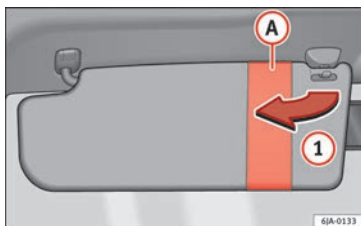
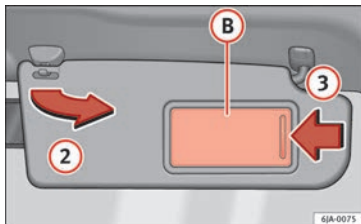

Fig. 54 Driver's sun visor.
Fig. 55 Front passenger's sun visor.
The sun visors for the driver and the front passenger can be pulled out of their central supports and turned towards the doors in the direction of arrow ① » Fig. 54 and ② » Fig. 55 respectively.
The front passenger sun visor includes a vanity mirror ② with a cover. The cover is opened by sliding it in the direction indicated by arrow ③ » Fig. 55.